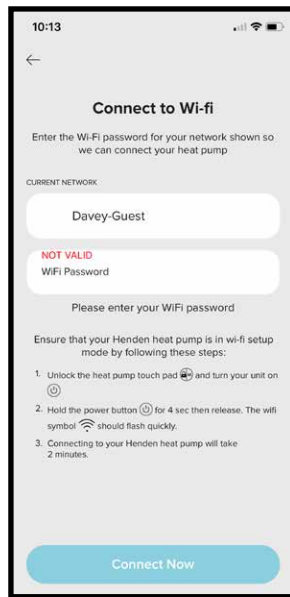

Figure 9.88
- Ensure the current network shown is the same network that your smart device is connected to. Enter the Wi-Fi password now (refer Figure 9.88). Follow instructions relating to touchpad controls on the heat pump, before clicking “Connect Now”.